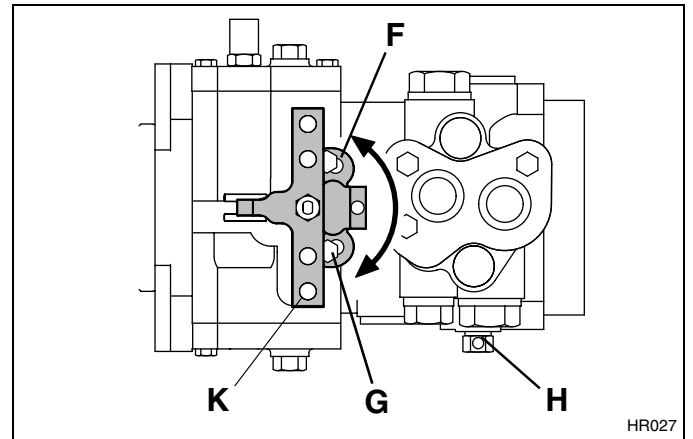

Figure 3G
1. Make sure return arm (K-**Figure 3G**) on pump is adjusted to neutral, Section 3.6.
2. Push traction pedal forward (I) until it touches floor panel and hold in this position.
3. Adjust turn buckle (J) until you feel the return arm hit the internal stop in pump. Backoff rod 2-3 turns from this position. This ensures that the traction pedal bottoms out before the return arm.